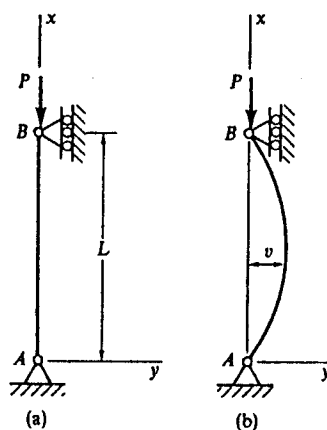

Figure 6.
- (20%) 6. Figure 6 shows a column with pinned ends: (a) ideal column, and (b) buckled shape. Determine the critical load and the deflected shape of the buckled column by using the second-order equation in terms of bending moment, M , i.e. $EIv'' = -M$, in which $v'' = d^2 v/dx^2$, v is the lateral deflection in the y direction and EI is the flexural rigidity for bending in the xy plane (the plane of buckling).